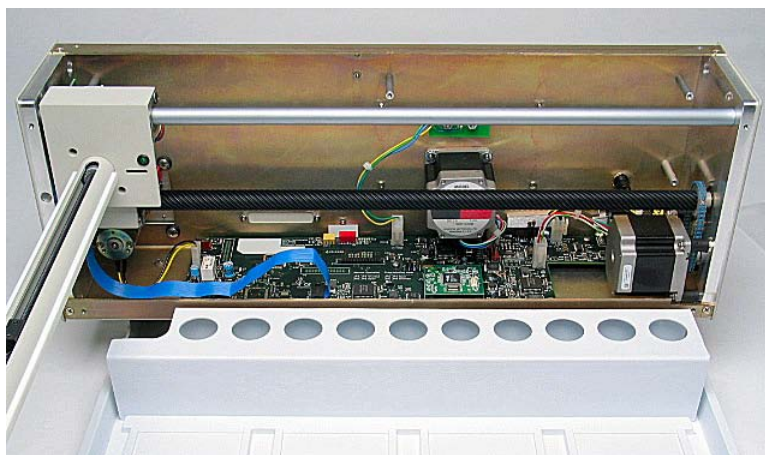

Figure 1-21 View of ASX-520 with inner shield removed.
2. The autosampler (Figure 1-21) is now ready for installation of the I/O daughter board.